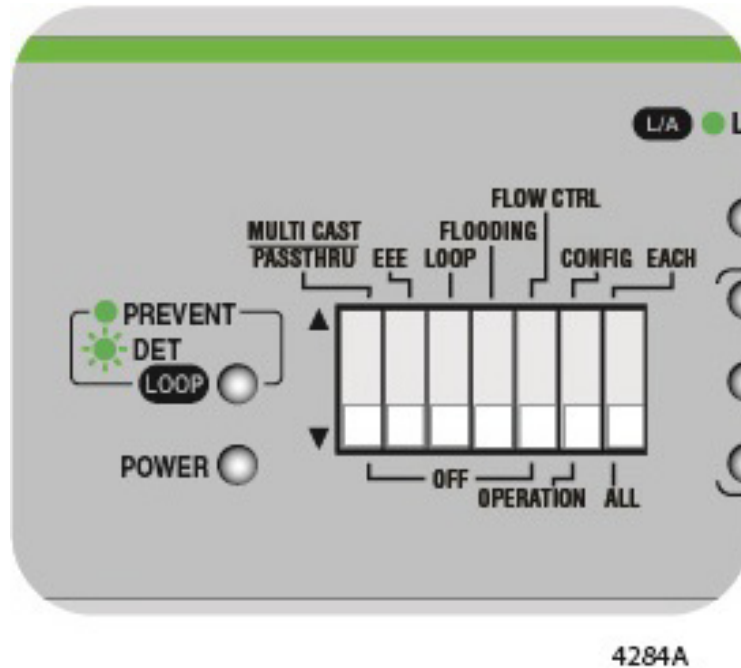

Figure 35. DIP Switch Settings for Disabling Loop Prevention
1. Set DIP switch # 3 to the DOWN position. See Figure 35.